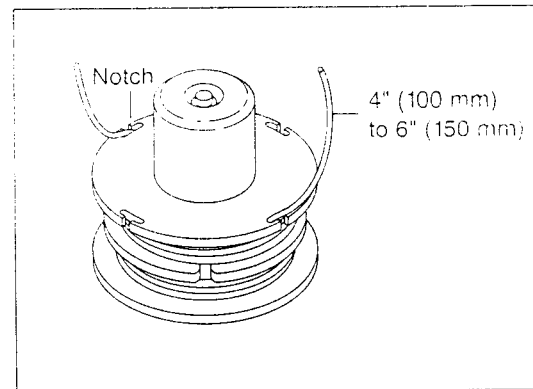

Fig. 47
4. Wind all but about 4" (100 mm) to 6" (150 mm) of the cord, leaving the ends temporarily hooked through a notch on the side of the spool (Fig. 47).